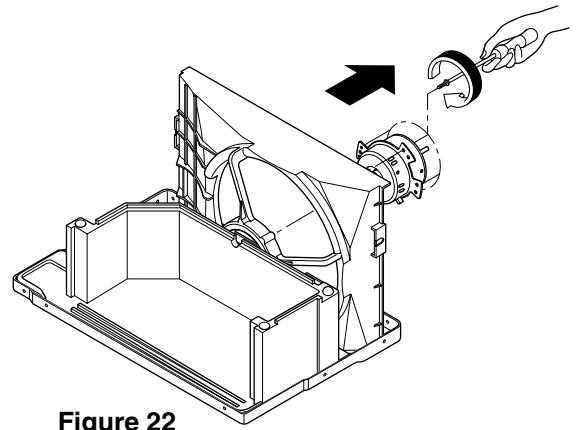

Figure 22
7. Remove 4 screws that secure the motor to the mount motor of shroud. (See Figure 22)